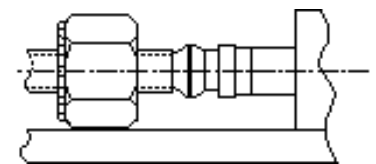

Figure 27. Insertion unit fixing position
- Fix the clamp at the position where the end of the sleeve holder moves 1 to 3mm into the inside diameter of the tube. (see Fig.27)